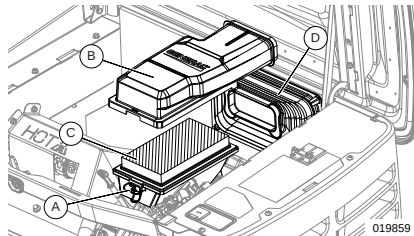

Figure 4-2. Servicing Air Cleaner (22–25 kW)
5. See Figure 4-2. Remove cover clips (A) and air cleaner cover (B).